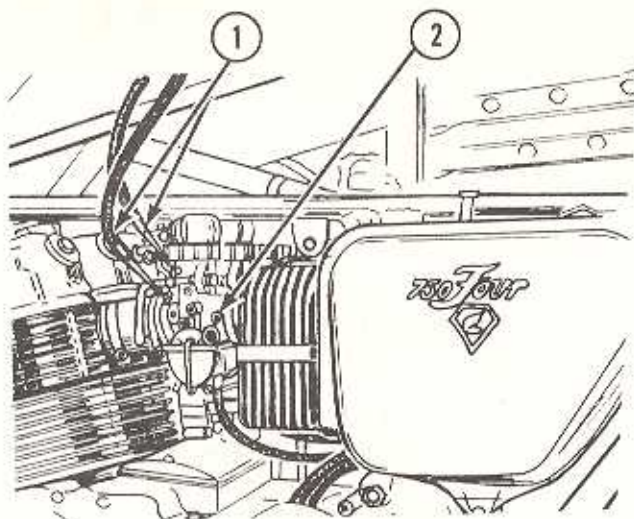

Fig. 2
- d. Remove the vacuum hose attachment plugs from the carburetors and install the attachments in these holes (long attachments to the inside carburetors, short attachments to the outside carburetors - Fig. 2).
Turn the four idle air screws (Fig. 2) in until they seat, then back them out one full turn from the seat.